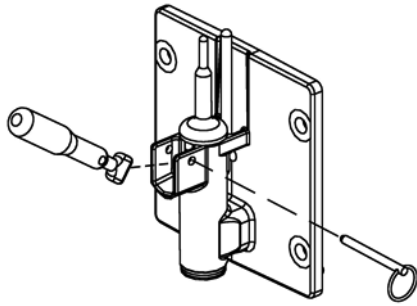

Figure 3-3 Remove Spigot Pin
- B. Pull out the spigot pin by its ring (Refer to Figure 3-3).